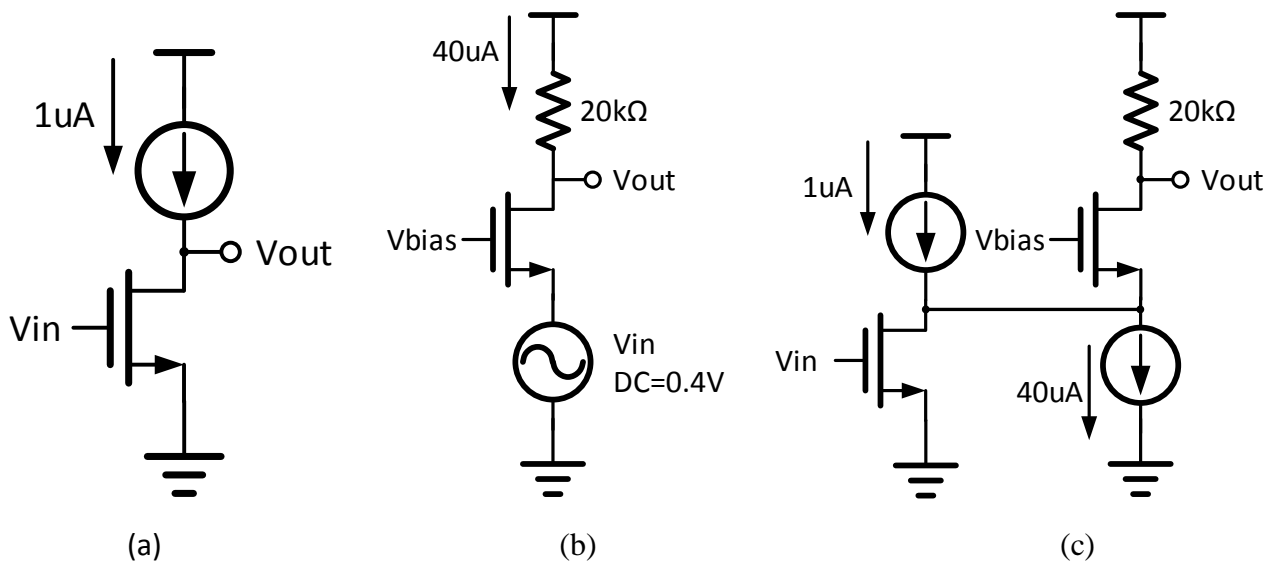

Fig. 1.
1. Use composer and hspice to simulate the circuits in Fig. 1 (ideal current source) with  $V_{dd}=1.8V$  and do the calculation. (40%)
- (a) Design a common source stage with gain  $A_1 > 100$  and **output DC voltage=0.4 (static current=1uA)** as shown at Fig. 1. (a). (5%)
- (c) Design a common gate stage with gain  $A_2 > 10$  and **input DC voltage=0.4 (static current=40uA)** as shown at Fig. 1. (b). (5%)
- (e) Connect two stage and add additional 40uA current source as shown at Fig. 1. (c). Whether the DC bias stays the same? The overall gain equals to  $A_1 \times A_2$  or not? If not, why not? (20%)